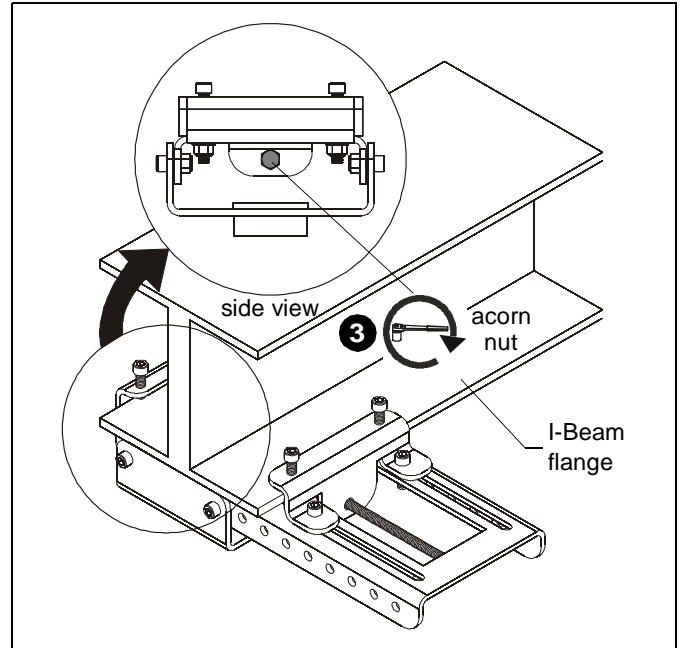

Figure 4
3. Position clamp (A) against lower face of I-Beam and tighten acorn nut. Stop tightening when sliding bracket nearly contacts edges of I-Beam flanges. (See Figure 4)